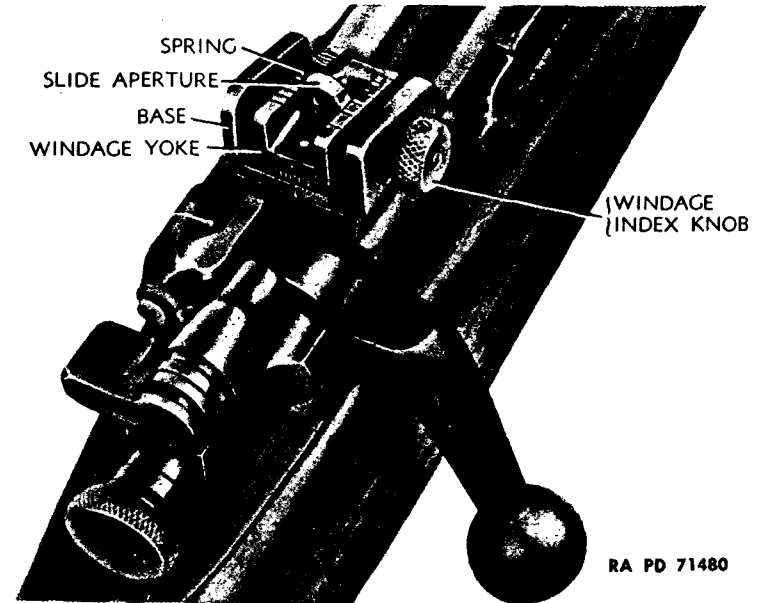

Figure 3 — Rear Sight for U.S. Rifle, Cal. .30, M1903A3
(2) **REAR SIGHT.** In this rifle, the folding leaf type of rear sight, and fixed base, used on the M1903 and M1903A1 Rifles, are removed from the rear end of the barrel, and a rigid, wing-type of rear sight is assembled to the bridge of the receiver (fig. 3). This sight consists of a base, windage yoke, slide aperture, spring, and windage index knob. The range scale on the windage yoke is marked in 100-yard graduations, and has 50-yard adjustments. The slide aperture can be moved up and down this scale for various ranges. Turning the windage index knob moves the yoke to the right or left to allow for windage. Each click represents a change of 1 minute of angle or a horizontal change of impact of 1 inch at a range of 100 yards. Each division or mark on the windage scale represents 4 minutes of angle or a change in the point of impact of 4 inches at a range of 100 yards.